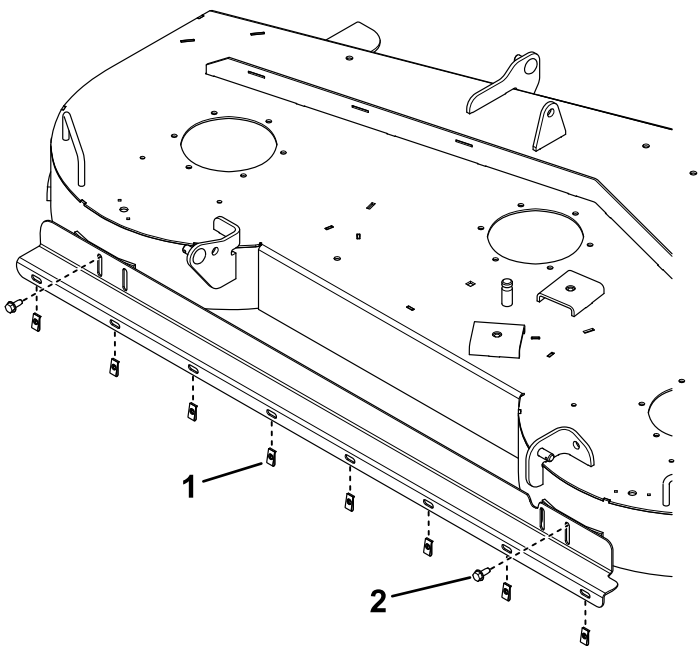

Figure 4
4. Install the bracket to the holes using 2 thread-forming bolts (Figure 4).
5. Install 8 speed nuts to the open holes in the bracket (Figure 4).